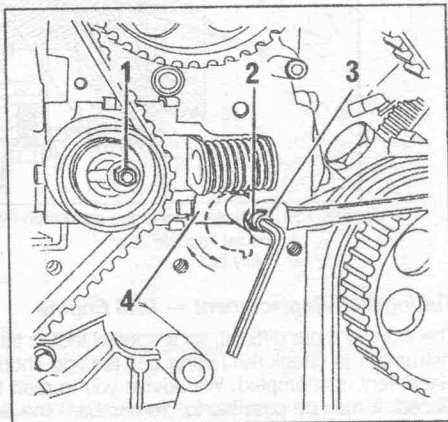

Fig. 1.57. — Details for the removal of the timing belt (XUD11). The numbers are referred to in the text.
- Refer to Fig. 1.57 and slacken the nut (1) securing the tensioning roller. Slacken the nut (2) with a 10 mm open-ended spanner. The inner bolt (3) will, however, turn during the removal of the nut and an Allen key of 5 mm A/F must be inserted into the bolt end to prevent it from rotating.
- Move the adjustment eccentric (4) away from the timing belt. This will move the tensioning roller. Keep the roller in the new position and tighten the nut (1) to lock it.
- Remove the timing rod from the flywheel and the two 8 mm bolts and slacken the nut (1) in Fig. 1.57. The tensioning roller will now push against the timing belt. Turn the crankshaft by two turns *in the normal direction of rotation, never reverse* and check that the crankshaft is back in the correct position. There is no need to re-insert the rod/bolts, a check is enough.
- Tighten the nut (1) in Fig. 1.57 to 1.0 kgm (7.2 ft.lb.) and again turn the crankshaft by two turns in the normal direction of rotation and re-check the timing position.
- Slacken the nut (1) by one turn and then tighten it again to 1.0 kgm (7.2 ft.lb.).
- Without moving the belt, tighten the nut (2) and the bolt (3) to 1 kgm (7.2 ft.lb.).
The open-ended spanner and Allen key, shown in Fig. 1.57, must be used. The timing rod and the bolts must now be re-inserted and must locate without difficulties. If this is not the case, re-adjust as described above, as something is not right.
- Slacken the nut (1) by one turn (the spring will take up any slack) and then tight-
ten it again to 1.0 kgm (7.2 ft.lb.). Without moving the belt, tighten the nut (2) and the bolt (3) to 1 kgm (7.2 ft.lb.). The open-ended spanner and Allen key, shown in Fig. 1.57, must be used. The timing rod and the bolts must now be re-inserted and must locate without difficulties. If this is not the case, re-adjust as described above, as something is not right.